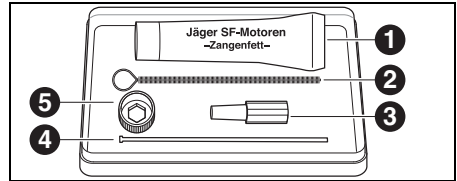

Fig. 29 Service set for Jäger spindle
- ▷ Apply a light coat of the collet grease ([1] in Fig. 29 on page 82) from the service set to the outer cone of the collet.